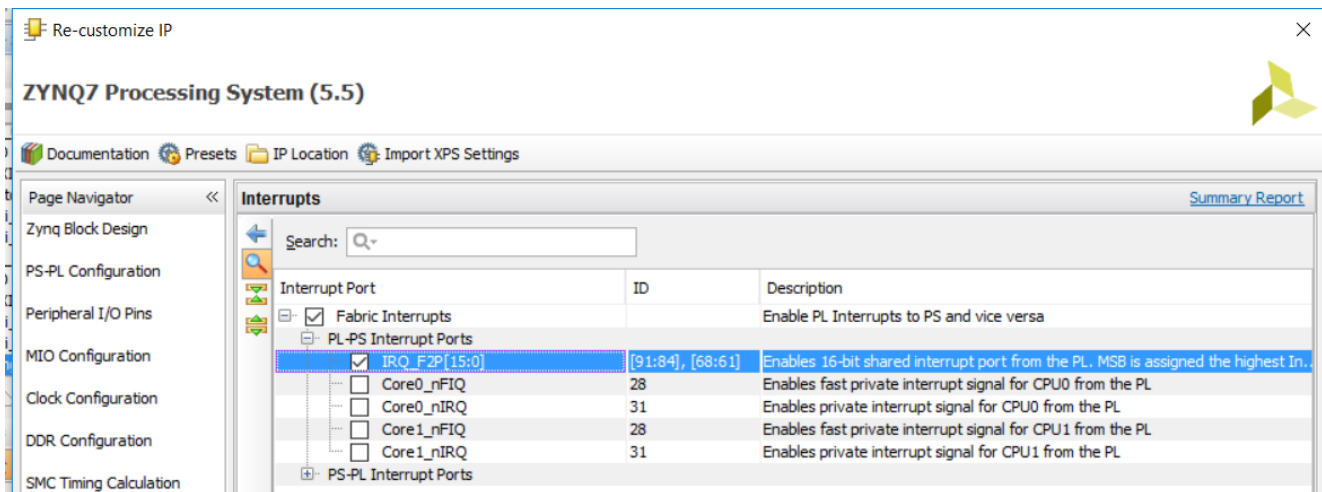

Figure 2.16: Configuring Zynq PS to utilise interrupts
- (I) Select *Interrupts* from the *Page Navigator* on the left-hand side and expand the menu on the right as in Figure 2.16. Since we want to allow interrupts from the **programmable logic** to the **processing system**, tick the box to enable **Fabric Interrupts**, then click to enable the shared interrupt port as in Figure 2.16. This means interrupts from the **PL** can be connected to the interrupt controller within the **Zynq PS**. Click **OK**.